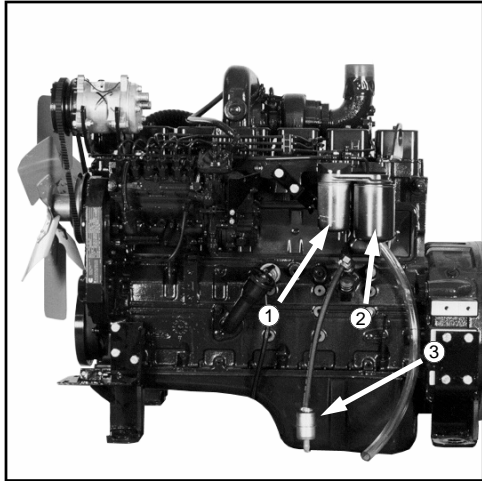

FIG 7.29
**PRIMARY (WATER SEPARATOR)** - (fig. 7.29, item 2) Drain water and sediment from the separator daily. Replace every 500 hours or once a year, whichever comes first.
**SECONDARY** - (fig. 7.29, item 1) Replace every 500 hours or once a year, whichever comes first.
**IN-LINE STRAINER** - (fig. 7.29, item 3) Note direction of fuel flow arrow when replacing.